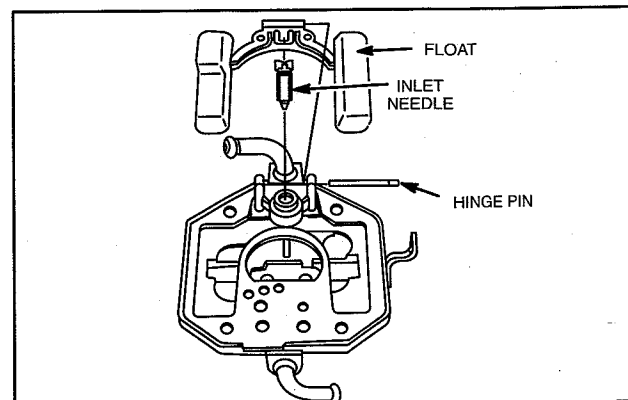

Fig. 100 – Remove Float
3. Remove float and fuel inlet needle, Fig. 100.